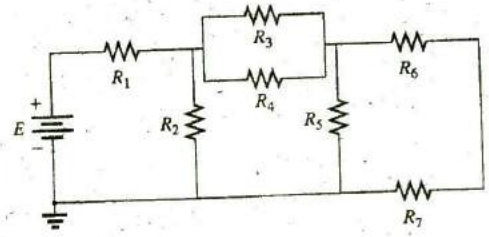

FIG. 6.72
2. For the network in Fig. 6.72: